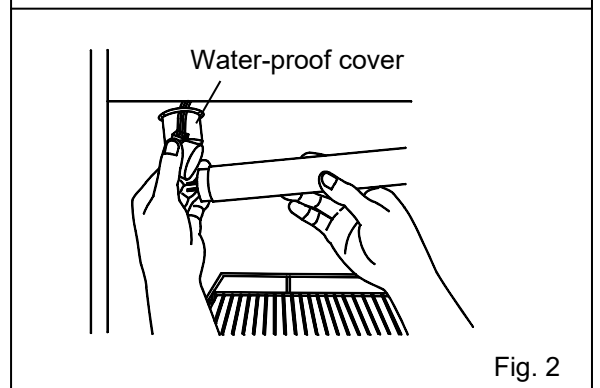

Fig. 2
4. Remove the water-proof cover with the wiring on the both sides of the lamp cover [Fig. 2].